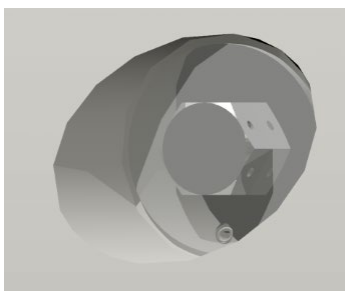

Figure 6.8—Transducer Housing Access Cover
2. Remove the transducer housing access cover (Figure 6.8) with a $\frac{3}{4}$ " [19 mm] socket. Disconnect the failed transducer's wire terminations.